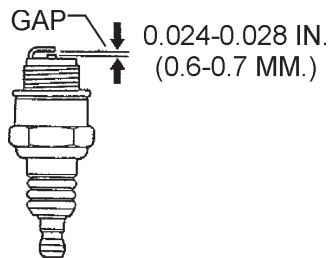

Figure 32. Spark Plug Gap
■ Remove and clean the spark plug (Figure 32), then adjust the spark gap to 0.024 ~0.028 inch (0.6~0.7 mm). This unit has electronic ignition, which requires no adjustments.